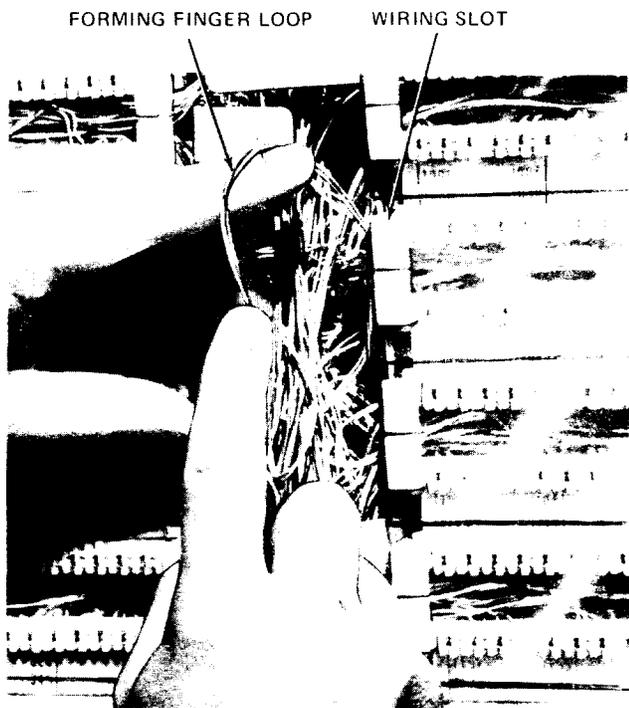

Fig. 6—Forming Finger Loop
4.04 Push the terminated wires to the rear of the wiring channel between the connecting blocks. Position the wires along the channel, through the wiring slots, and into the wiring trough. Form a finger loop to provide 2 inches of slack (Fig. 6). *These finger loops allow a sufficient amount of slack for movement of the cross-connecting wire for tracing.*